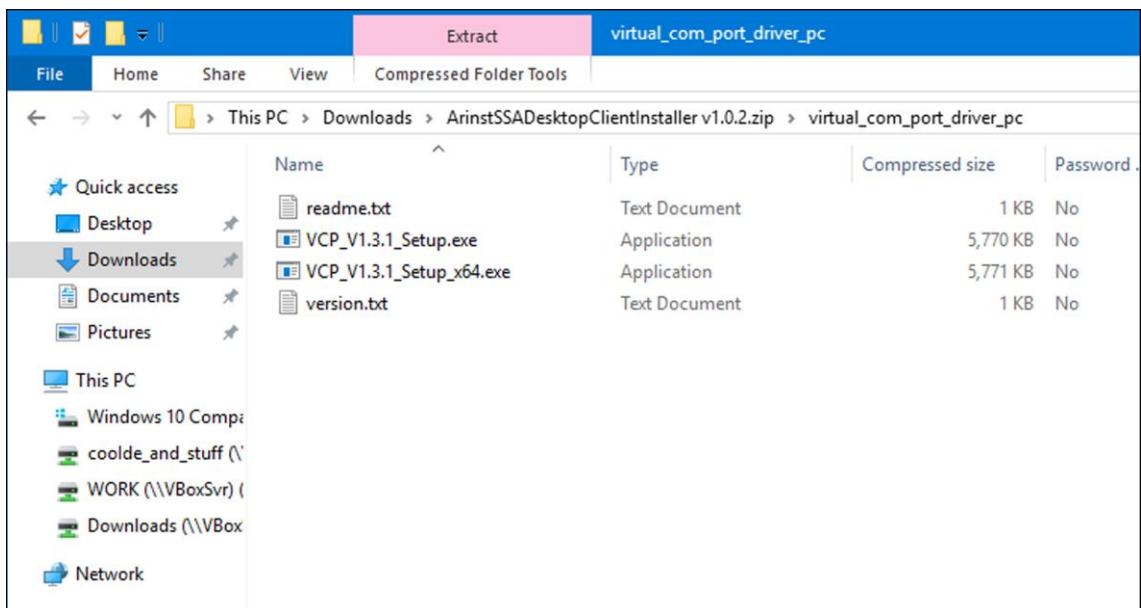

Figure A5 - Virtual port drivers
2.6. Enter the folder with the drivers to create a virtual port virtual_com_port_driver_pc (Figure A5). The folder contains drivers for 32-bit and 64-bit Windows operating systems.